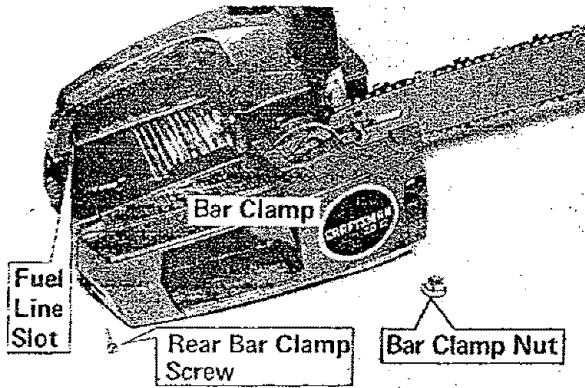

Figure 1
1. Remove the bar clamp nut and rear bar clamp screw (Figure 1). Turn the adjusting screw, setting the pin all the way to the rear (See Figure 5).
6. NOTE: Be sure fuel line is in slot in fan housing. (See Figure 1).